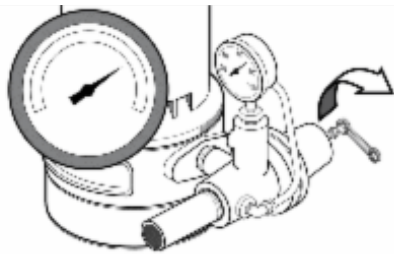
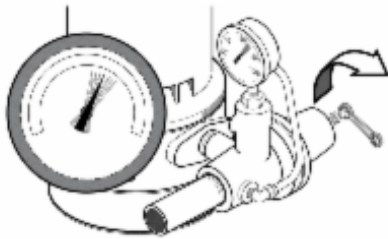
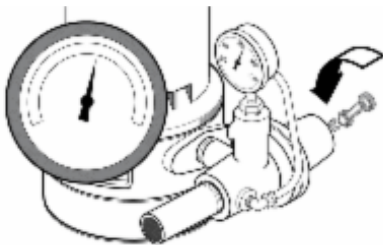

Figure 14A: Open Regulator Valve
Figure 14B: Watch for Pressure Gauge to Flutter
Figure 14C: Close Regulator Valve until Pressure Stabilizes
- Once unit has primed and pressure stabilized, slowly open (turn counterclockwise - Figure 14A) regulator valve until pressure falters (pressure gauge needle flutters; pump may become noisy - see Figure 14B). At this point, close (turn clockwise) regulator valve slightly until pressure stabilizes. This setting provides maximum flow (Figure 14C).